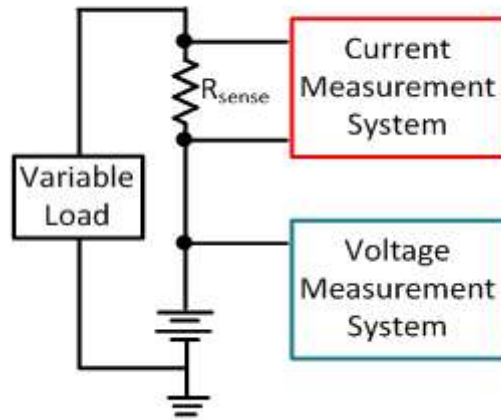

Figure 2: Diagram of a battery analyzer measuring current and voltage
- hundred kilo samples per second (kSPS) takes multiple measurements of each input signal, which the host processor then digitally filters to improve measurement accuracy. Figure 2 shows a simplified diagram of a battery tester system.
In Figure 2, the load is varied to draw a range of AC currents from the battery, resulting in an AC voltage across a small, high-accuracy sense resistor. A high-precision data-acquisition system designed for minimal signal distortion typically amplifies and then measures the voltage created across the resistor. In the case of measuring the DC voltage of the battery, this input is often scaled down by an amplifier to enable an ADC to measure a wide range of voltages. In both cases, the ADC chosen to digitize the signal must have high-enough resolution to enable it to detect small changes to the input signal.